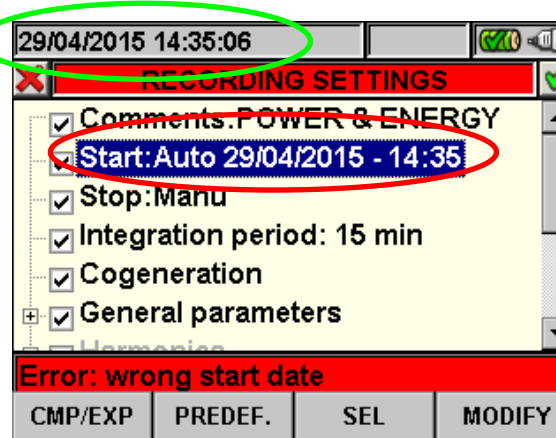

Fig. 91: Wrong Date/Hour
3. Press **SAVE** or **ENTER** keys (or smart icon ) to saving the settings. The screen of Fig. 91 is shown if a wrong Date/Hour is set. Under this condition the **SAVE** key does not have any effect. Repeat the steps 2 and 3 and set corrects values before pressing **SAVE** key again.